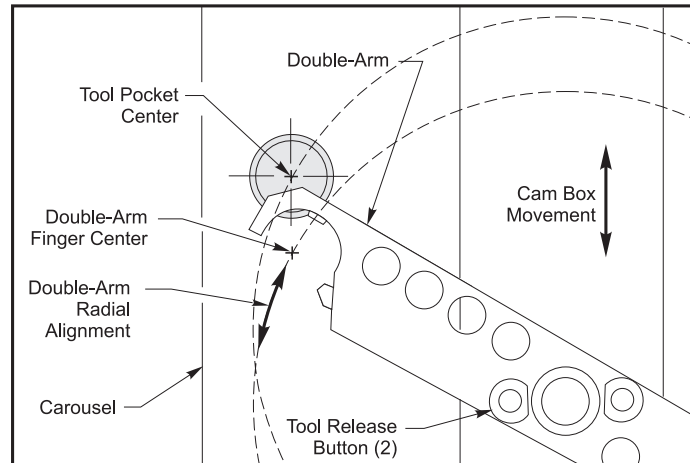

Figure 3.12-9 Cam Box / Double Arm Alignment, top view.
8. Place an empty tool holder without a pull stud into the double arm end beneath the tool pocket. Depress the tool release button on top of the double-arm and insert a tool holder. Slightly push the double-arm in the clockwise direction to remove backlash in the drive assembly. Refer to Figure 3.12-9.
10. In order to adjust the radial alignment of the tool pocket holder to the double arm, loosen the lock ring SHCS and adjust the double-arm. Refer to Figure 3.12-9.
17. Press the ATC FORWARD button until the arm lowers and is parallel to the x-axis. Insert a short tool holder into the double arm by pressing the tool release button located near the shaft. Refer to Figure 3.12-9